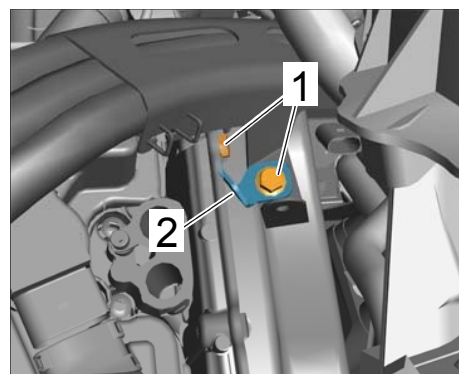

Figure 11
- 5.7 Unscrew fastening screws ⇒ *Figure 11 -item 1-* and remove connecting piece of holder for the high-voltage wires ⇒ *Figure 11 -item 2-*.